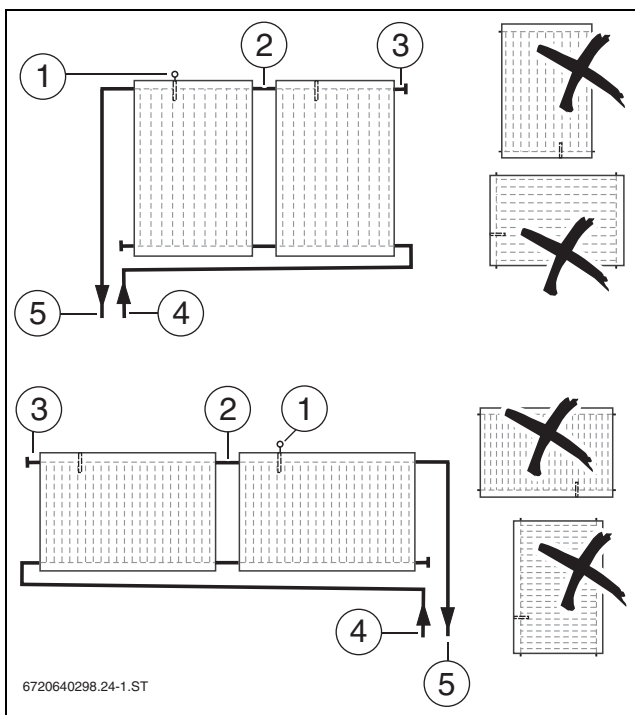

Fig. 13 Layout of portrait (top) and landscape (bottom) collectors
- ▶ Connect the collector array alternately (→ Fig. 13).
- ▶ When installing collectors, ensure that the sensor pocket for the collector sensor is located at the top (→ Fig. 13 [1]).
- ▶ Plan the routing of the collector sensor lead so that the collector sensor (→ Fig. 13 [1]) can be fitted to the collector to which the flow [5] has been attached.